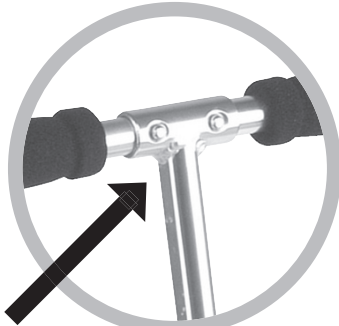

Fig. 4
4. Insert the handlebar grips into the T-joint of the handlebar shaft. Press with the thumbs on the two locking buttons, as well as the handlebar grips, until the grips can be inserted easily into the T-joint. Rotate the handlebar grips until the locking buttons appear in the two locking openings provided for that and engage audibly. Check the correct seating of the two handlebar grips by pulling both handlebar grips outwards. If the two handlebar grips cannot be moved anymore, they are assembled according to specification. (Fig. 4)
4. Press the locking buttons into the handlebar grips with the thumbs and pull out the handlebar grips until they are completely released from the T-joint. (Fig. 4)